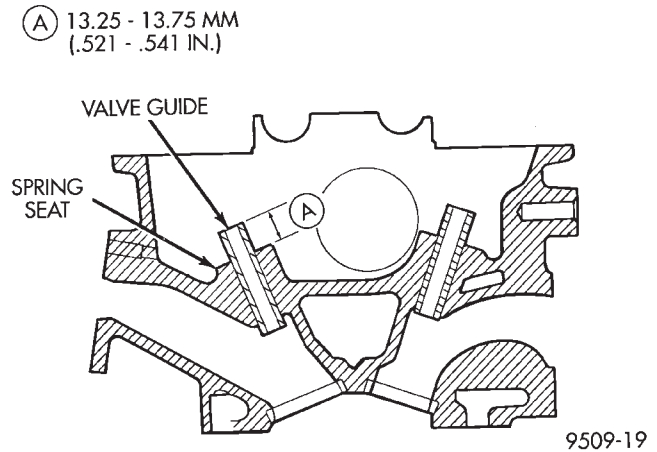

Fig. 45 Valve Guide Height
- (3) Check valve guide height (Fig. 45).